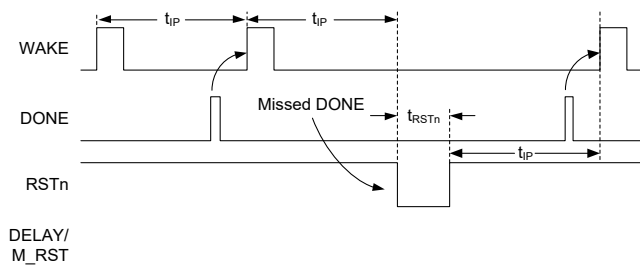

Figure 4. Watchdog
2. If the DONE is not received at least 20ms before the next WAKE rising edge (see Figure 4).